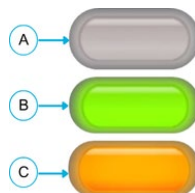

Figure 12-22: Status Indicator Light
2. Verify that the Status Indicator Light is green (**B**) (**Figure 12-22**).
- During vapor treatment the Status Indicator Light is orange (**C**) (**Figure 12-22**)
■ **NOTE:** To terminate vapor treatment prior to 10 seconds, release the **Vapor Delivery Button (D)**.